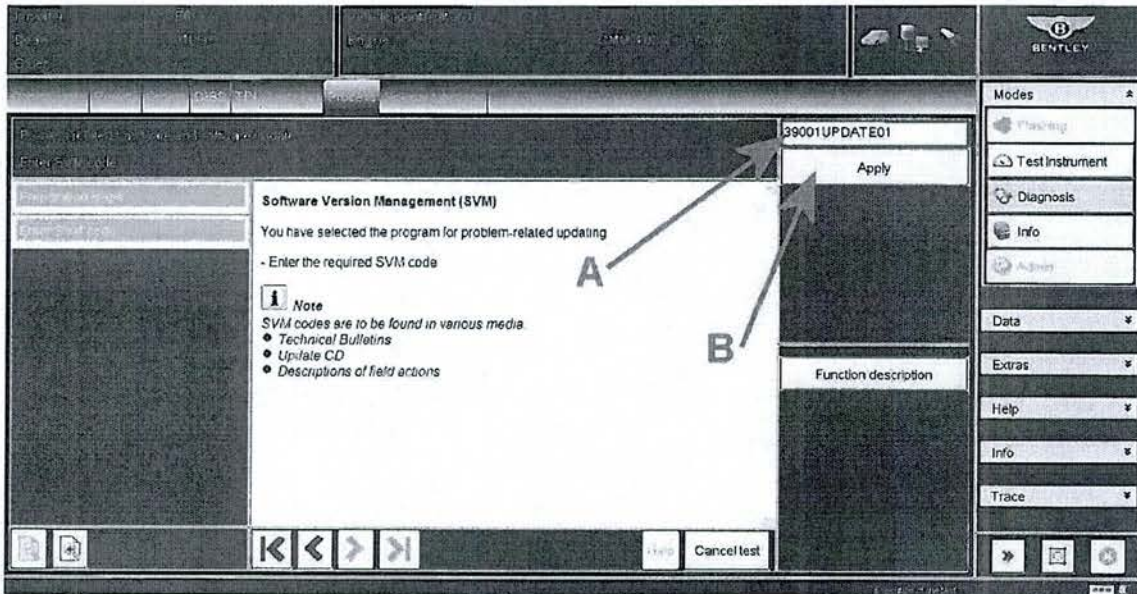

Figure 8
- 3. When prompted enter the SVM code 39001UPDATE01 as shown in Figure 8 Point A